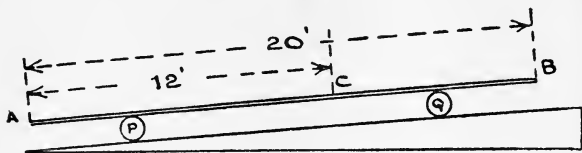

Fig. 2.
4. A plank AB (see Fig. 2), 20 feet long and weight 50 lbs., rests upon two solid cylindrical rollers P and Q , each one foot in diameter and each weighing 40 lbs. Initially the plank rests with P under A and Q under C , and the system is placed on an